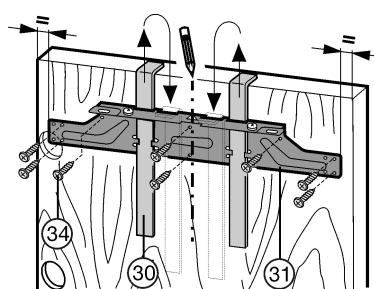

Fig. 20
- ▶ Attach the cross-piece Fig. 20 (31) together with the assembly aids Fig. 20 (30) to the inside of the unit door.
- ▶ Concentrically align the crosspiece Fig. 20 (31): Mark a short centre line on the unit door and put the tip of the arrow over it.
- ▶ Tightly screw the crosspiece Fig. 20 (31) into place using at least 6 screws Fig. 20 (34).
- ▶ Tightly screw the crosspiece Fig. 20 (31) into place using 4 screws Fig. 20 (34) at the edge.
- ▶ Raise and remove the assembly aids Fig. 20 (30), turn them and slide them into the adjacent openings.